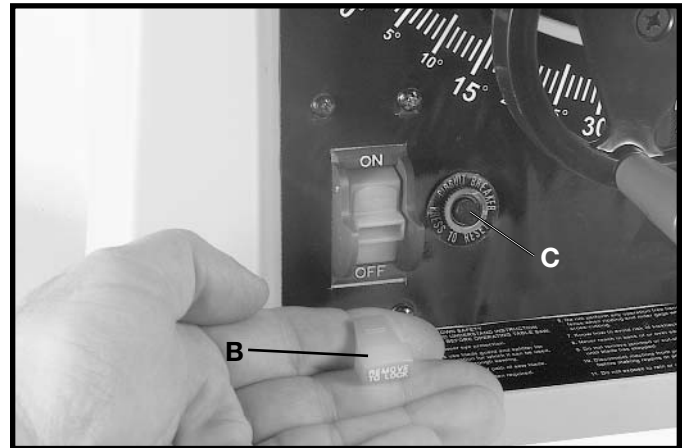

Fig. 32
IMPORTANT: When the tool is not in use, the switch should be locked in the “OFF” position to prevent unauthorized use. This can be done by grasping the switch toggle (B) and pulling it out of the switch as shown in Fig. 32. With the switch toggle (B) removed the switch will not operate. However, should the switch toggle be removed while the saw is running, it can be turned **“OFF,”** but cannot be restarted without inserting the switch toggle (B) back into the switch.
Your saw is equipped with a resetable overload relay button (C) Fig. 32. If the motor shuts off or fails to start due to over-loading (cutting stock too fast, using a dull blade, using the saw beyond its capacity, etc.) or low voltage, turn the switch to the **“OFF”** position. Let the motor cool three to five minutes and push the reset button (C), which will reset the overload device. The motor can then be turned on again in the usual manner.